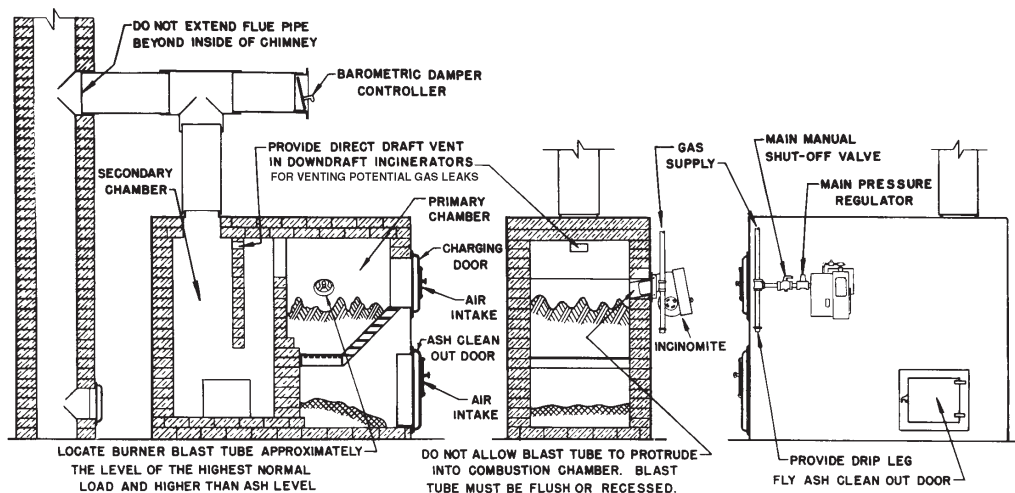

Figure 1 Typical Installation
- To change the Mounting Flange to its alternate position, horizontal or 10° down firing, remove the four (4) screws that attach it to the burner, rotate the flange 180° and reinstall the screws.
**⚠ CAUTION:** If the incinerator is of the down draft design, make sure that a direct draft vent opening of approximately 10 square inches has been put through the top of the drop section(s) to provide for the venting of any gas leakage. See Figure 1.
- A suitable Main Gas Pressure Regulator should be installed as shown in Figure 1. Choose a regulator(s) to adjust the available gas pressure to the pressure shown in SPECIFICATIONS, page 2.